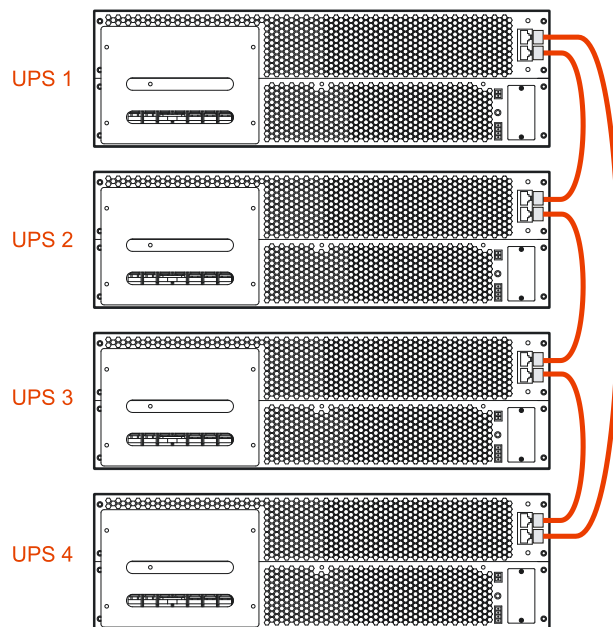

Figure3-21 Wiring diagram of parallel wire
Step 3 Connect the parallel port of each unit in parallel by parallel wires, as shown in Figure3-21.